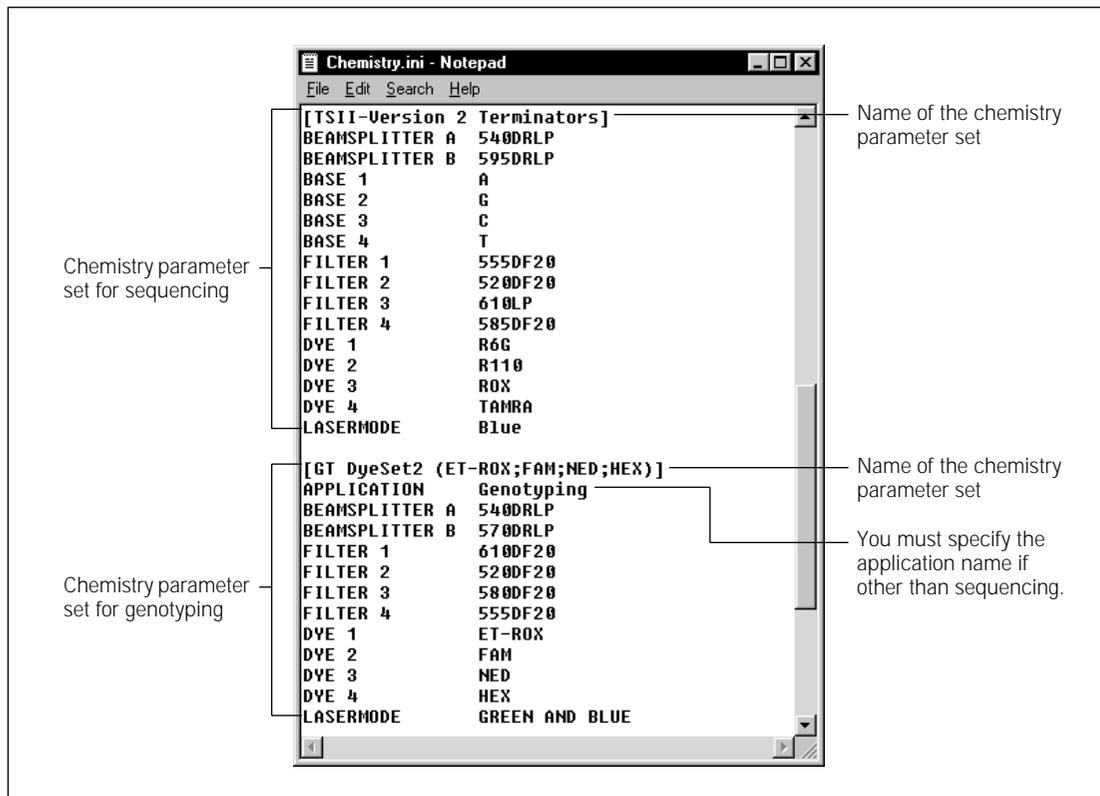

Figure 6-1. A section of the Chemistry.ini file opened in Notepad. Examples of chemistry parameter sets for the sequencing and genotyping applications appear.
1. Open the Chemistry.ini file using a text editor or Excel. The Chemistry.ini file is located in the `...\MegaBACE\DataSystem` folder. Figure 6-1 shows a section of the Chemistry.ini file.
The name of each chemistry parameter set appears in brackets, for example [TSII-Version 2 Terminators]. The field names appear in the left column, and the values appear in the right column. The columns are separated by one or more tabs. Note that the field names vary slightly between the sequencing example and the genotyping example (figure 6-1).